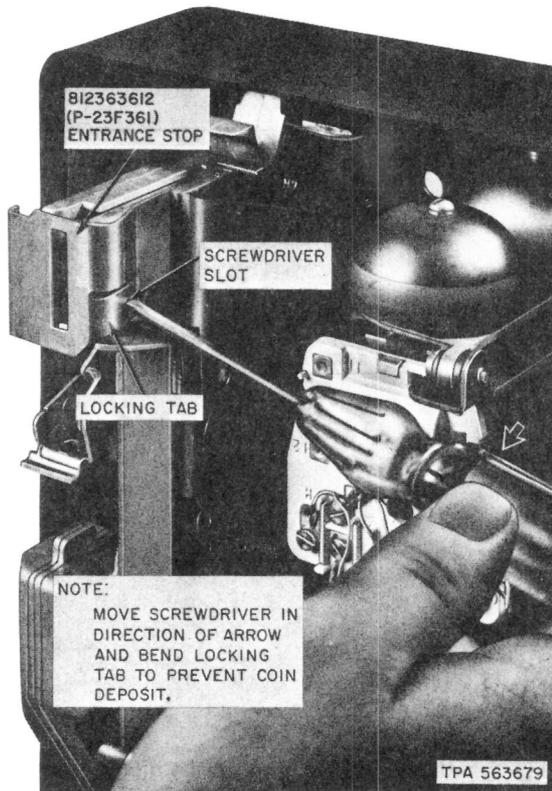

Fig. 48—Operation of Entrance Stop
5.35 The entrance stop (Fig. 48) is installed on the chute to minimize coin losses due to chute stuffing. When the coin release lever or knob is operated or a stuffing condition exists the entrance stop moves sideways and closes the coin slot.
5.37 A prefabricated locking tab arrangement can be bent with a screwdriver (Fig. 48) to hold the upper plate assembly off normal. This will prevent customer coin deposits in newly installed coin telephone sets awaiting initial service connection, or those that are out of service which require further maintenance or repair.